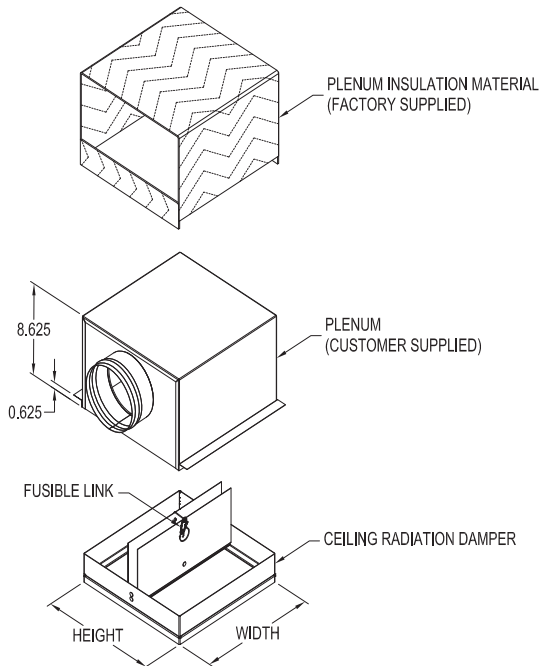

Figure 6: Exploded view
- 4) The steel plenum box is to be attached to the damper using #8 screws,  $\frac{1}{8}$  in. (3 mm) rivets, spot welds, or tack welds. Minimum of two per side (**Figure 6 and 7**).